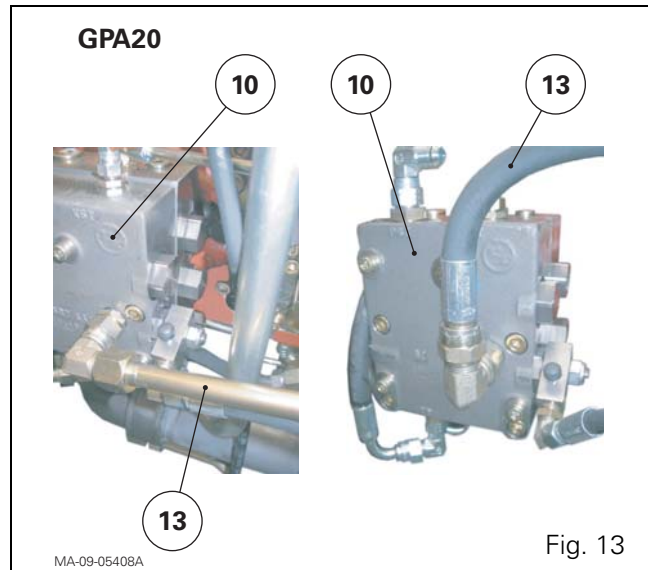

Fig. 13
8. Connect the hydraulic pipes or hoses. For the pipe or hose (13) of the trailer braking unit (10) proceed as follows:
- **GPA20 rear axle (Fig. 13)**